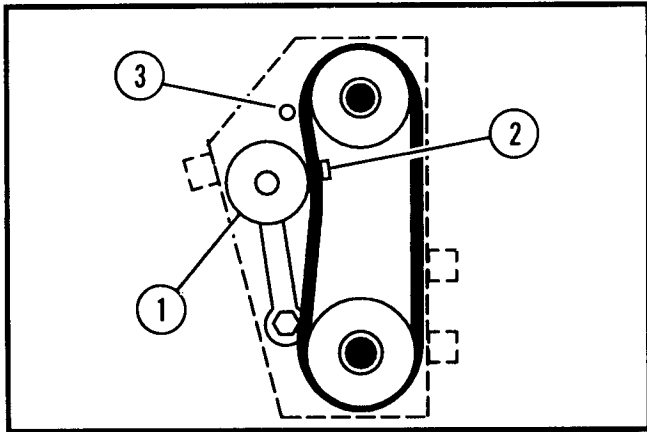

Figure 9. Belt installation
2. Place the new belts between the idler pulley and the snubber on the idler arm and then over the engine and reel pulleys (See Figure 9).
3. Install the belt guards. Make sure the belt stop rod is outside of the belt (See Figure 9).